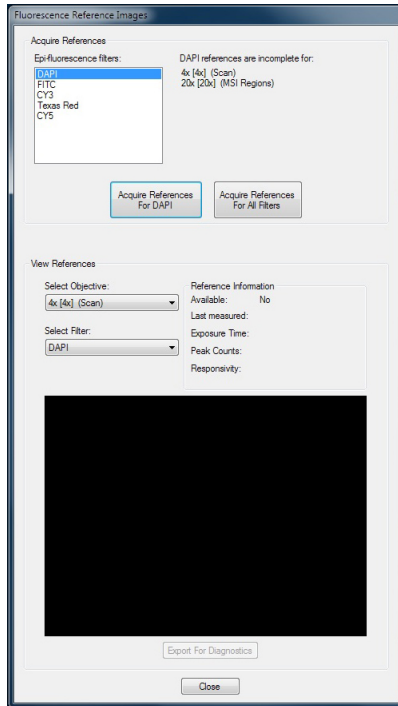

Figure 18. Fluorescence Reference Images Window
2. Click the **Fluorescence References** button to initiate taking the fluorescence references. The Fluorescence Reference Images window opens as shown in Figure 18.